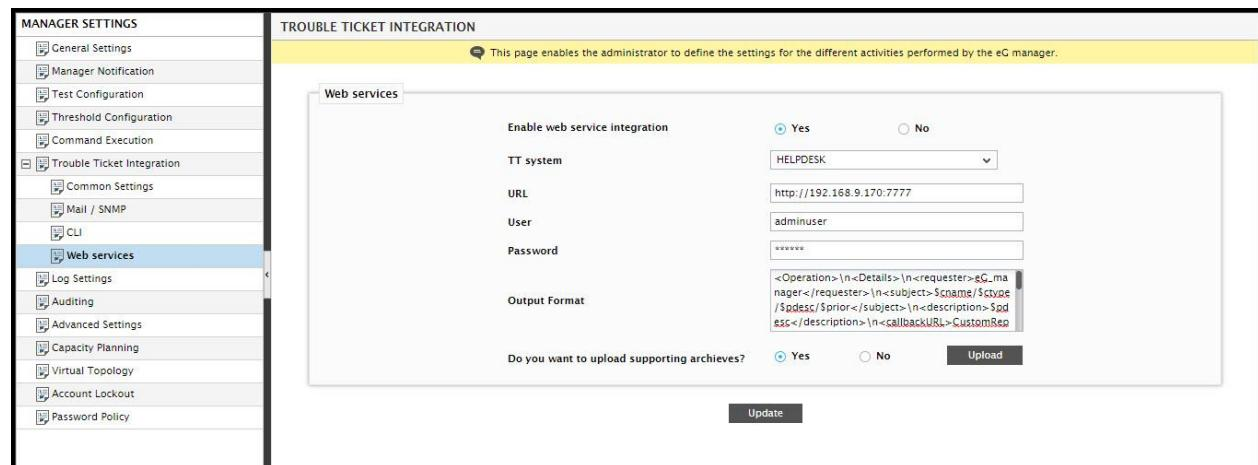

Figure 5.10: Integrating the eG manager with a Third-party TT system that supports a web services framework
3. In the **MANAGER SETTINGS** tree-structure in the left panel of Figure 5.10, expand the **Trouble Ticket Integration** node.
5. To enable integration via the web services interface of the new TT system that you added (using the procedure detailed in Section 5.6.1 of this procedure, set the **Enable web service integration** flag in Figure 5.10 to **Yes** and select the new TT system from the **TT system** drop-down.
7. To upload the TT integrator class and supporting jar file, set the **Do you want to upload support archives?** Flag in Figure 5.10 to **Yes**. Then, click the **Upload** button alongside.
9. After successfully uploading the file, click the **Update** button in Figure 5.10.